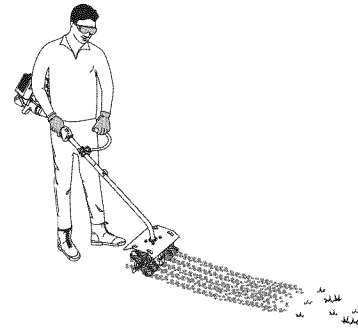

Fig. 4
4. Hold the unit firmly with both hands and slowly lower the unit until the tines make contact with the ground (Fig. 4).